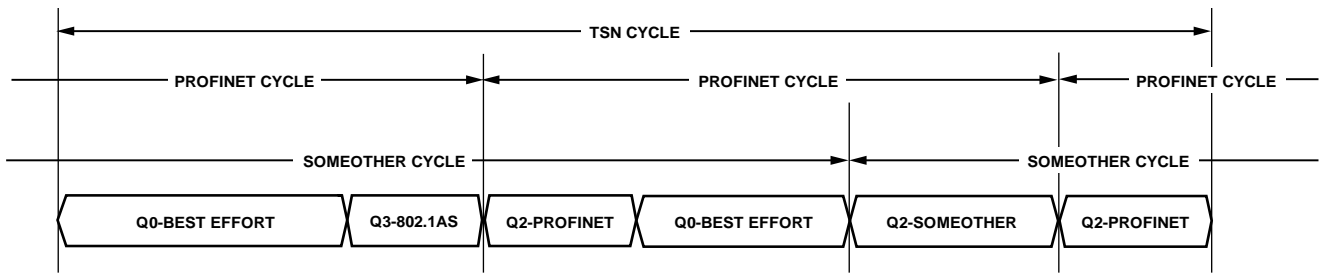

Figure 16. A Schedule Supporting Different Cycle Times; PROFINET Is Scheduled Twice As Many Times As "SomeOther" Traffic
- Streams with different cycle times need to coexist on one wire. One way to solve such problems is to use a slower TSN schedule and open the gate for the faster traffic multiple times within the TSN cycle. See Figure 16 as an example.